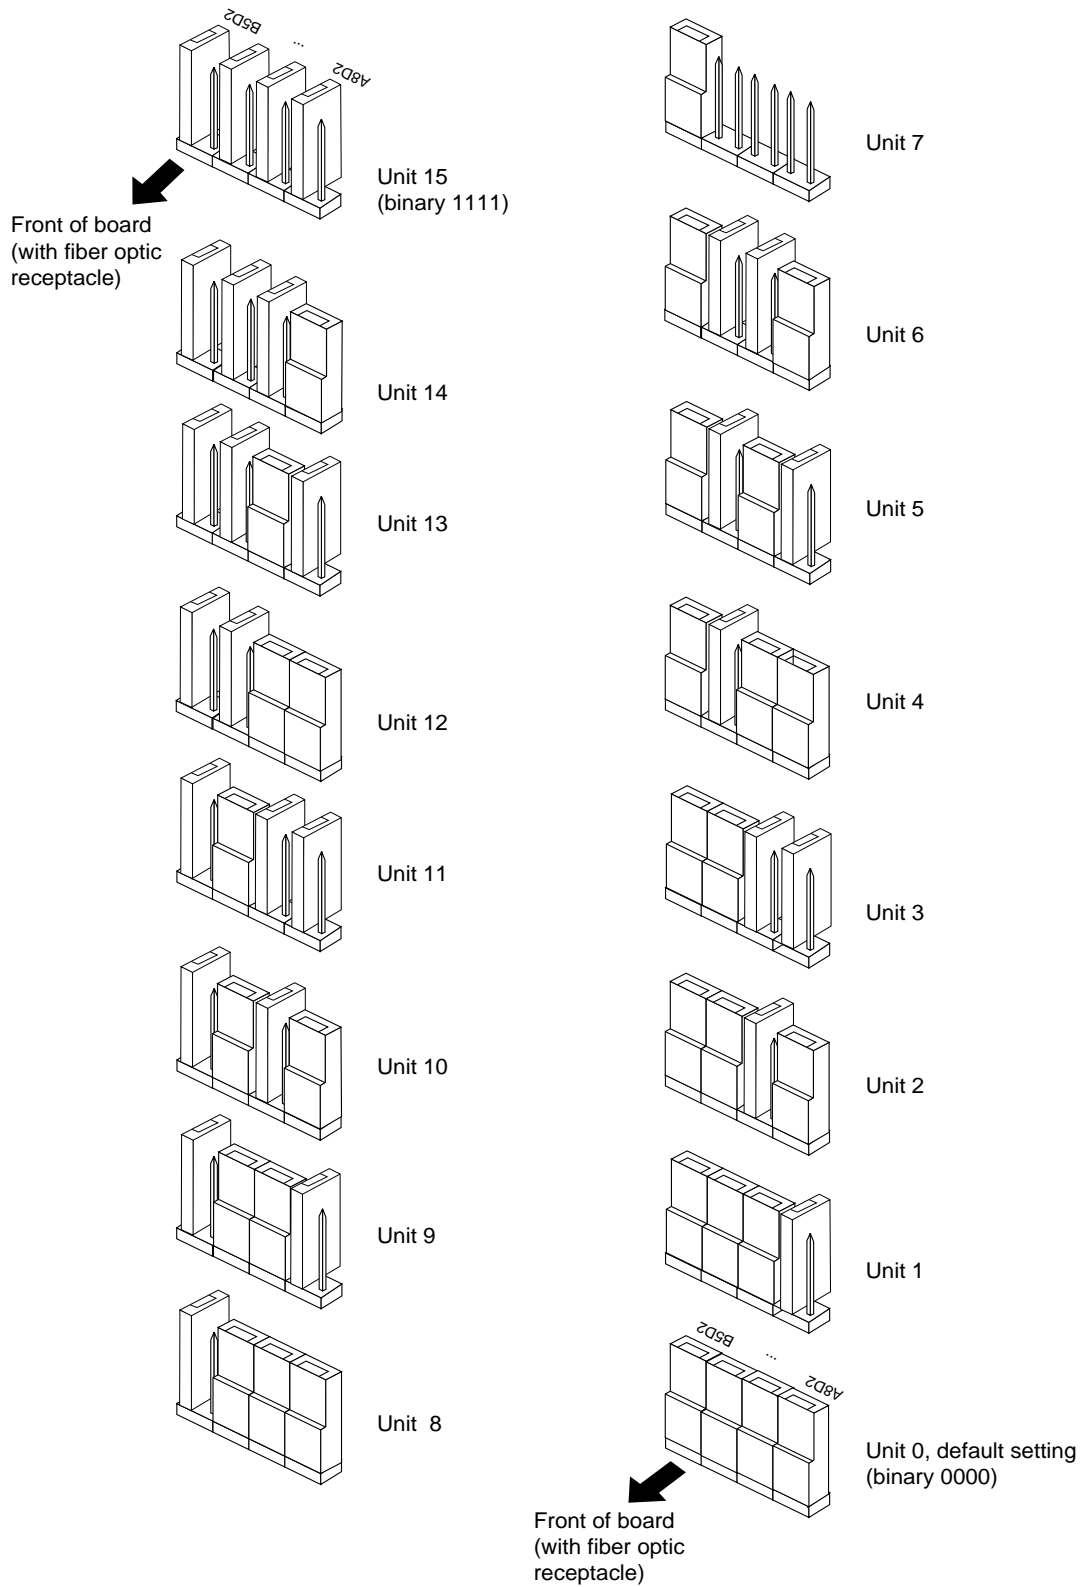

Figure 1-3 Unit Jumper Settings
- Figure 1-3** Unit Jumper Settings1-5
If you decide to have unit numbers assigned by the jumpers, you must edit the `/var/sysgen/master.d/atm` file, as described in the *IRIS ATM Configuration Guide*, and change each board's Unit Jumper Set to a unique unit number. Figure 1-3 illustrates how to set the jumpers for 16 different unit numbers. In this illustration, jumpers that are illustrated at a right-angle to the line of pins, are stored in the unjumpered position, which is binary 1.
- For each additional IRIS ATM board, assign the next available unit number. Tag each board with its assigned unit number, then, follow the examples in Figure 1-3 to alter the jumpers on each board.